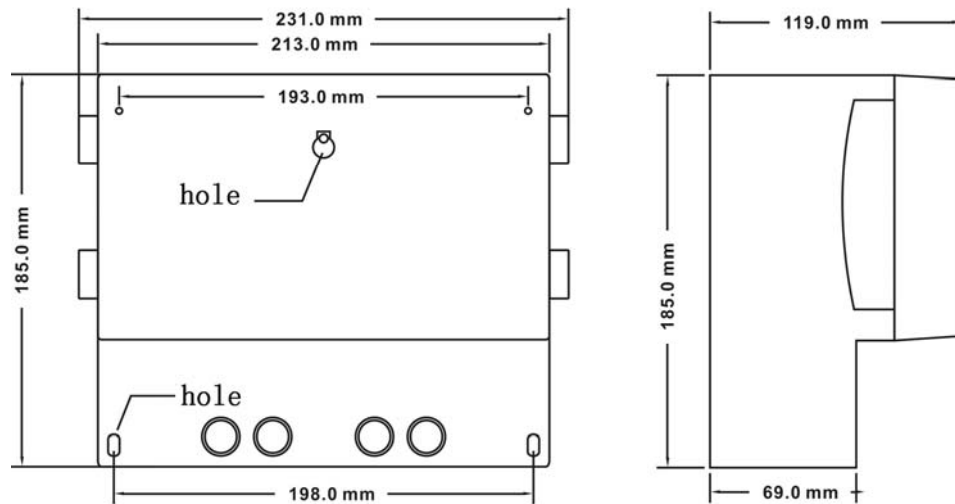

Fig. 2.1 Dimensions of Transmitter
- Reserve enough space so that the transmitter can be opened fully and is accessible for maintenance. See Fig. 2.1 for dimensions.